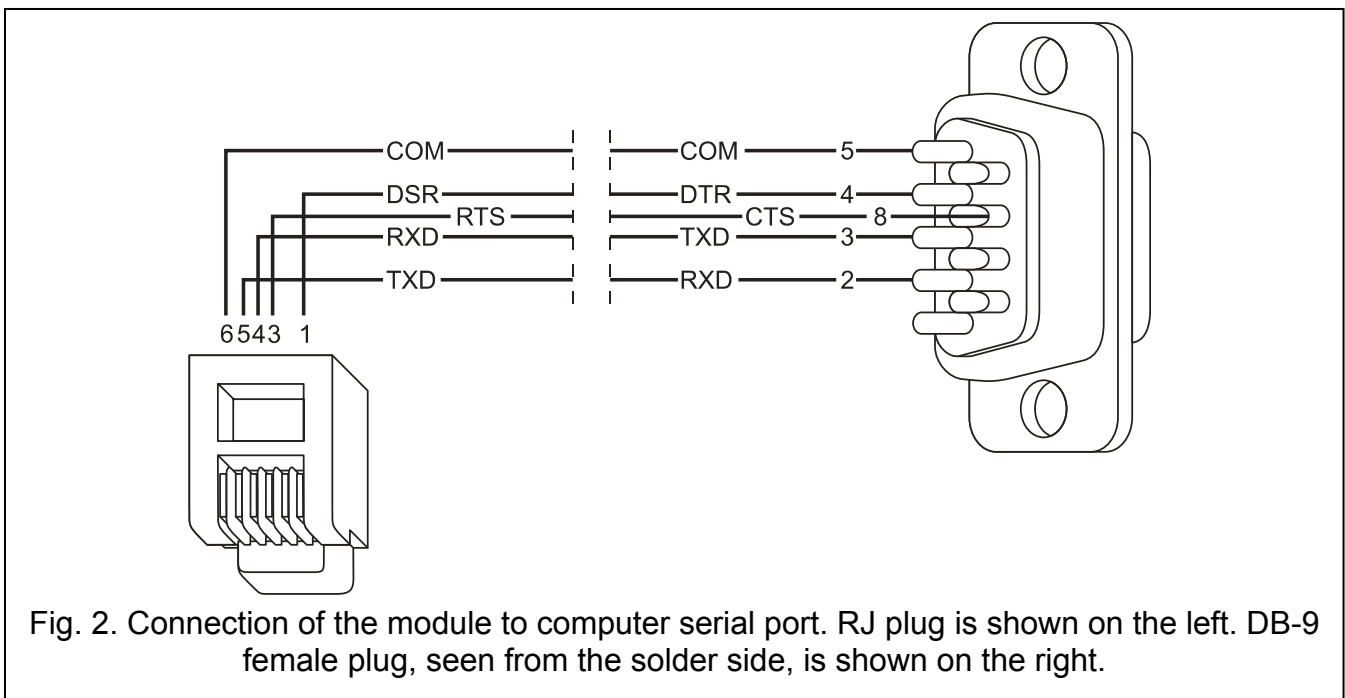

Fig. 2. Connection of the module to computer serial port. RJ plug is shown on the left. DB-9 female plug, seen from the solder side, is shown on the right.
1. Connect the module RS-232 port (RJ type socket) to the computer COM serial port. The method of connection is shown in Figure 2 (you can buy a ready-made cable, manufactured by SATEL).